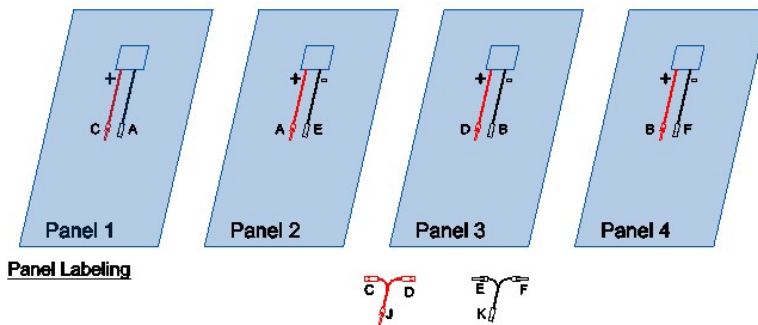
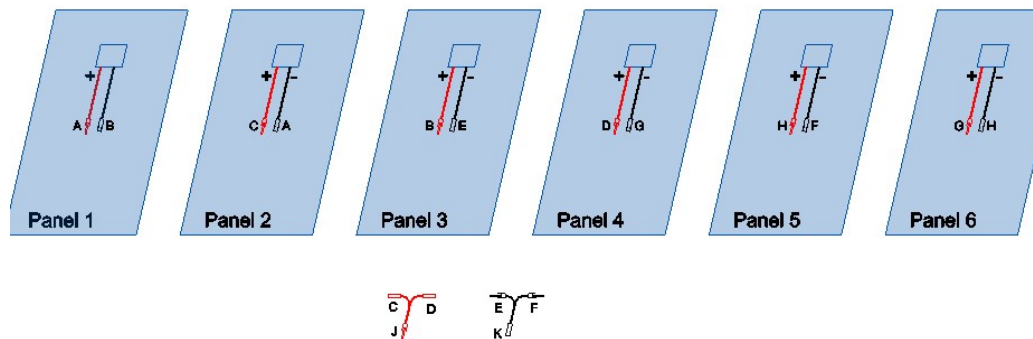

Figure 3-1 Panel Labelling Guide – 4 panels
Figure 3-2 Panel Labelling Guide - 6 Panels
- If you have purchased panels with your kit they will be labelled according to Figure 3-1 or Figure 3-2.